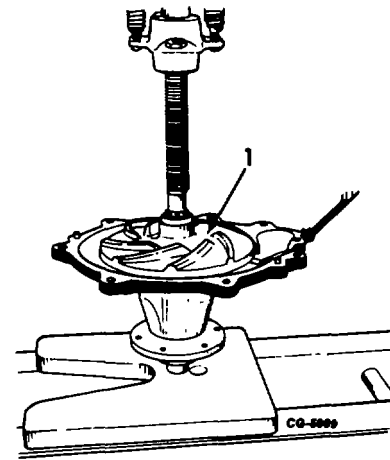
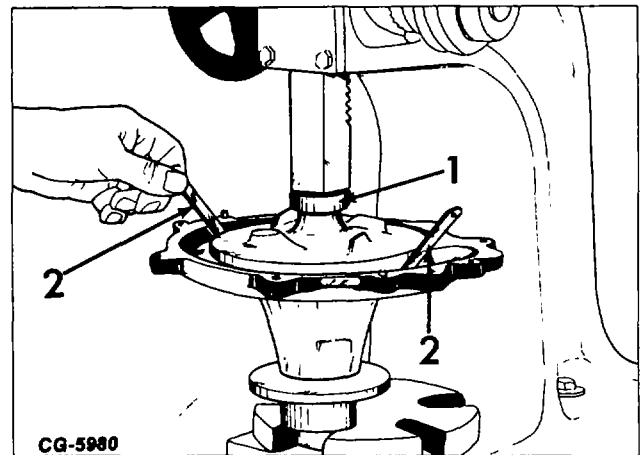

Figure 14. - Installing Impeller
Figure 15. - Measuring Impeller to Housing Clearance
- d. Press impeller (1, Fig. 8) onto shaft with shaft supported on front end as shown in Fig. 14. Prior to fully installing, place two 0.71 mm (0.028 in.) feeler gauges under the impeller as shown in Fig. 15.
1. With feeler gauges in place press impeller until feeler gauges (2, Fig. 15) are snug.
2. Use a sleeve (1, Fig. 15) under press ram as shaft will protrude slightly from impeller.